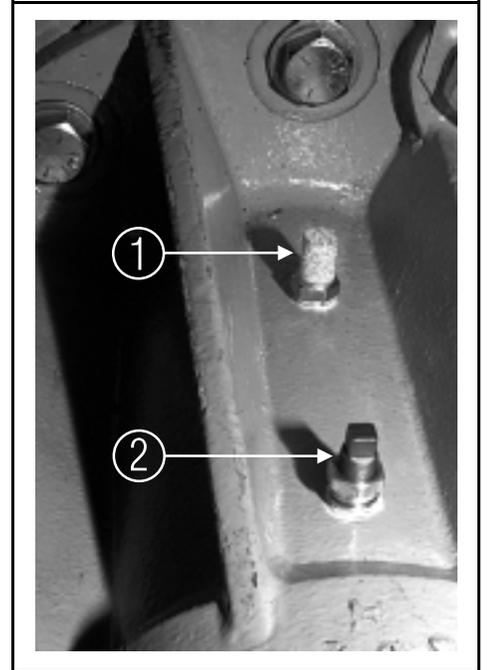

FIGURE 2 (MSSM0712AE)
3. Locate the oil fill plug (FIGURE 2) on the bearing housing. Clean the surrounding area and remove the oil fill plug.